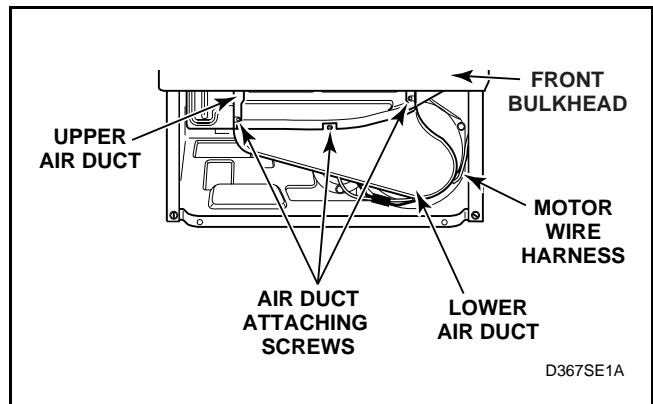
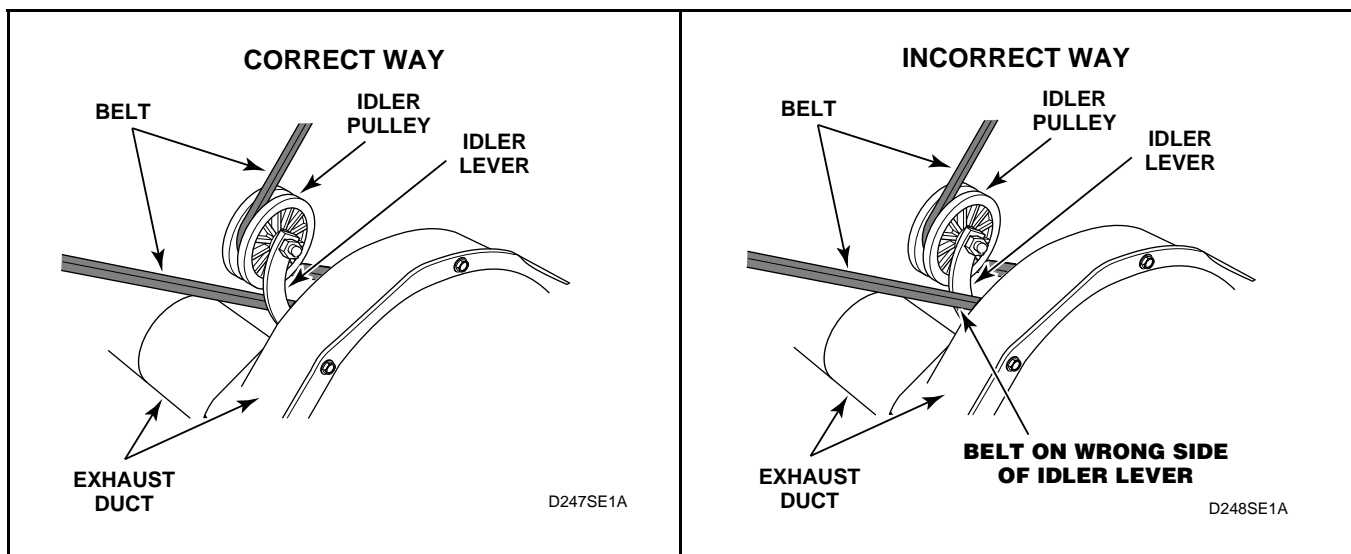

Figure 42
Figure 43
- (3.) Remove three screws holding lower duct to upper duct and remove lower air duct. See *Figure 42*.
- Remove screws holding lower air duct to upper air duct and remove lower air duct. See *Figure 42*.
- Remove cylinder belt from idler and motor pulleys. See *Figure 43*.
IMPORTANT: When reinstalling motor and exhaust assembly, be sure wire harness on right side is clipped to motor mounting bracket and is routed along dryer base (between motor mounting bracket and right side of cabinet). See *Figure 42*. Tab on rear of motor mounting bracket must be slid into slot in dryer base. Be sure the belt has been installed on the correct side of the idler lever. See *Figure 43*.
- Disengage belt from motor and idler pulley. See *Figure 43*.